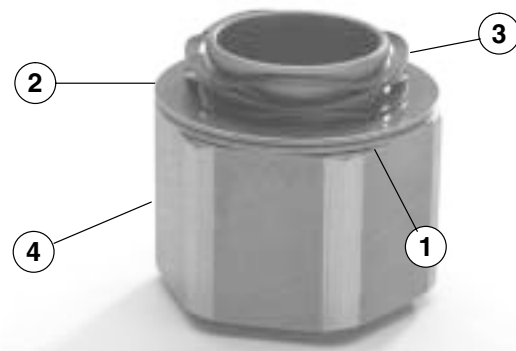

Figure 76
3. Place thrust bearing, thrust washer, and spring onto the cam (Fig. 76).